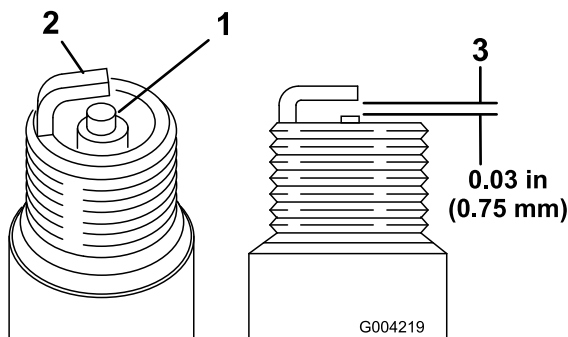

Figure 60
1. Look at the center of the spark plug (Figure 60).
2. Check the gap between the center and side electrodes (Figure 60).
3. Bend the side electrode (Figure 60) if the gap is not correct.